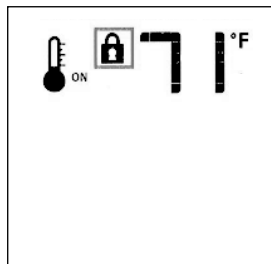

Fig. 8.25. Lock ON.
- To activate the Lock, press the Mode key and UP Key at the same time. Fig. 8.25.